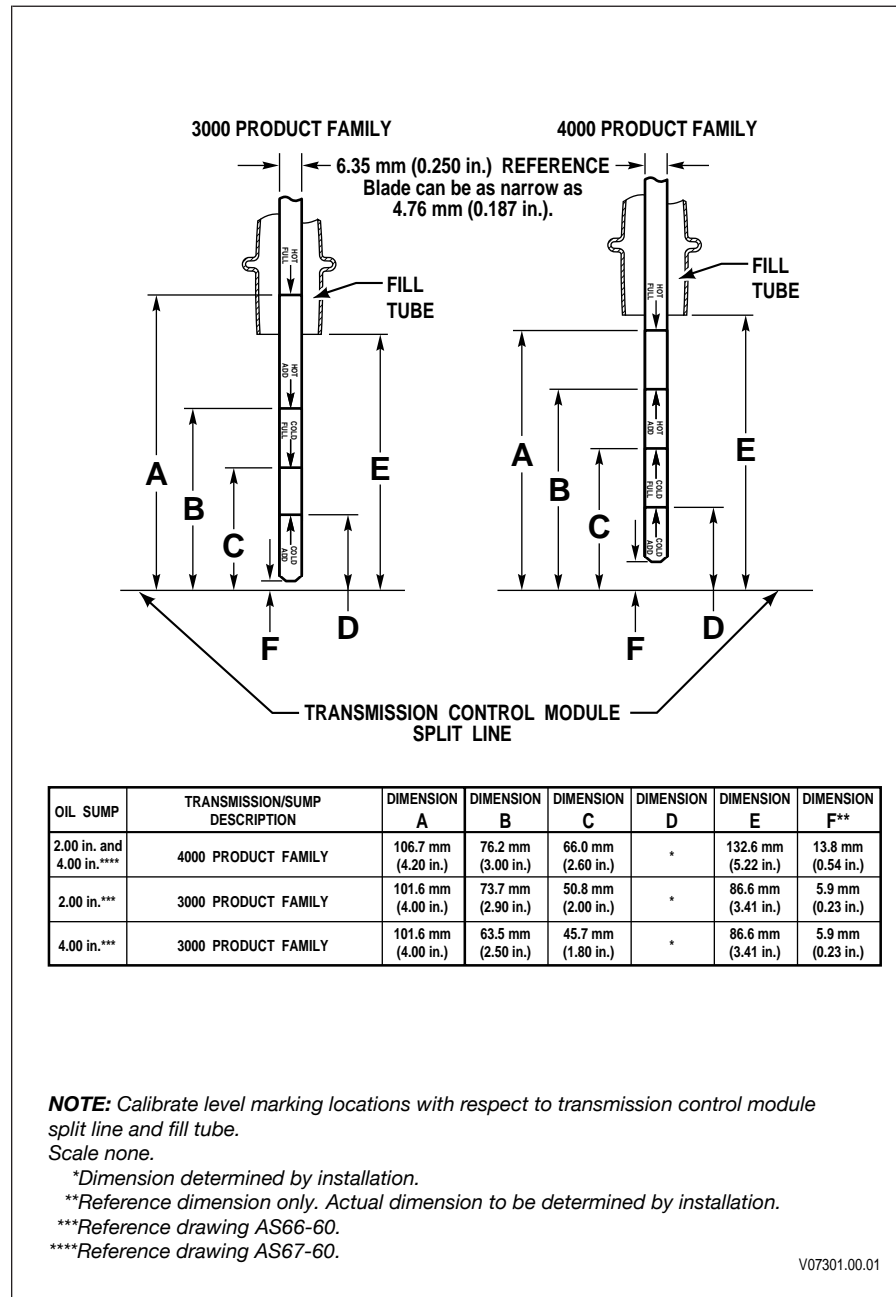

Figure 11. Standard Transmission Dipstick Markings
8. Remove the dipstick and observe the fluid level. If the fluid on the dipstick is within the COLD CHECK band (refer to Figure 11), the level is satisfactory. If the fluid level **is not** within this band, add or drain fluid as necessary to bring the level within the COLD CHECK band.